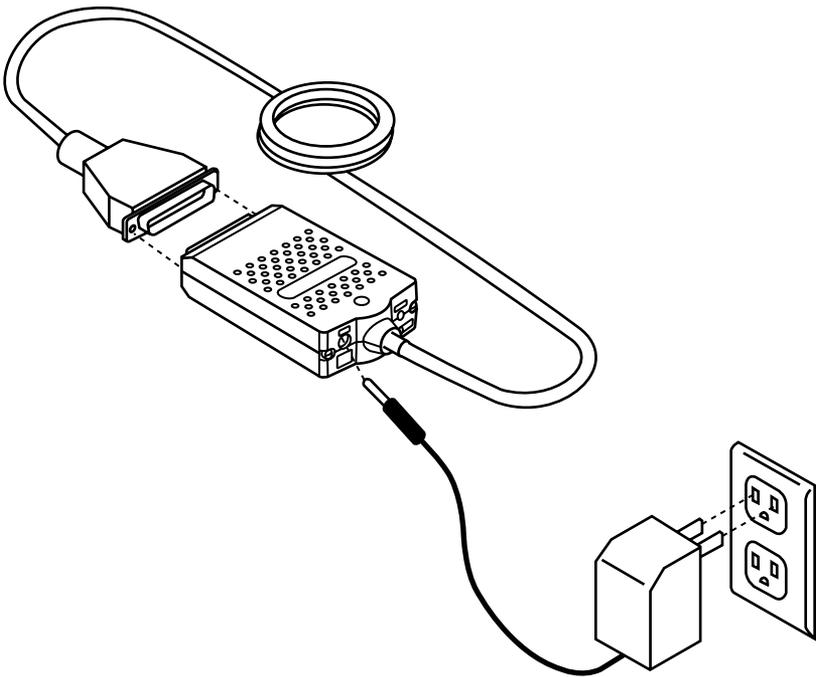

Figure 4-3. Hardware Diagnostics Setup.
1. Using Figure 4-3 as a guide, connect the loose end of the cable to the SNA Spoofer connector (INTERFACE) that normally connects to the general device.